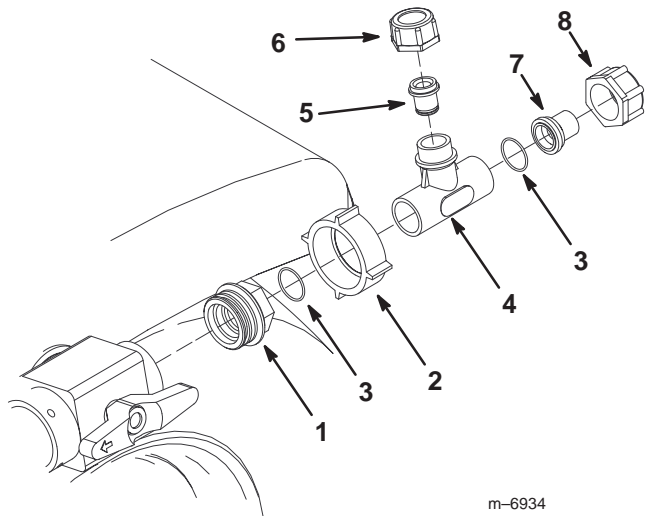

Figure 9
7. Connect the adapter to the valve using the large plastic nut (Fig. 9).
8. Connect a large O-ring and tee to the adapter (Fig. 9).
9. Connect the reducer assembly to the top of the tee (Fig. 9) using the small plastic nut.
10. Connect a large O-ring and the reducer nipple to the tee (Fig. 9) using the medium plastic nut.